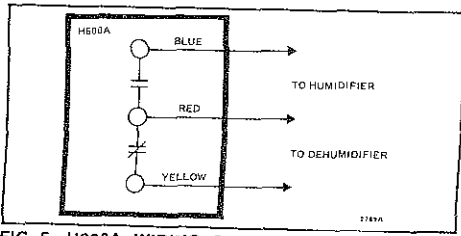

FIG. 5—H600A WIRING DIAGRAM. CONNECT RED AND BLUE LEADWIRES TO HUMIDIFIER OR RED AND YELLOW LEADWIRES TO DEHUMIDIFIER.
5. Connect wires as shown on Fig. 5.
Insert wiring through hole in back plate or through conduit entry (see Fig. 2). If conduit entry is not used, hole must be closed with the rubber plug provided. If the hole in the mounting plate is exposed to an opening in the wall, plug the opening to prevent drafts from affecting the humidistat operation. Connect wires as shown in Fig. 5.